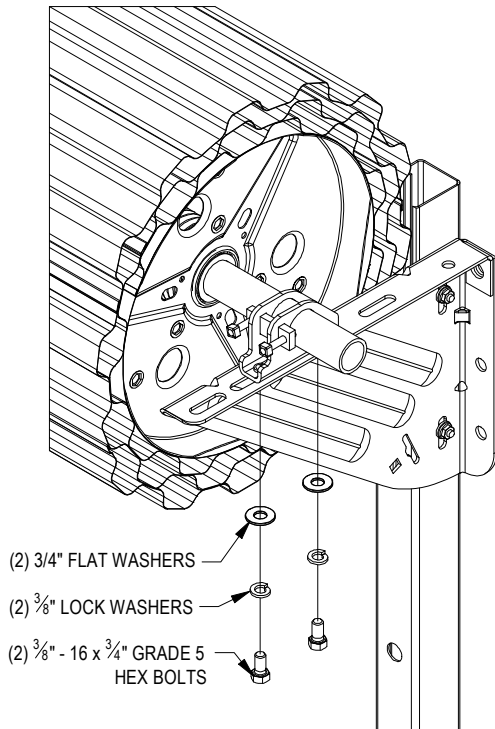

FIGURE 17:
- Attach stamped axle support to door bracket using two (2) each 3/8" - 16 x 3/4" grade 5 hex bolts, 3/8" lock washers and 3/8" flat washers. **SEE FIGURE 17.**